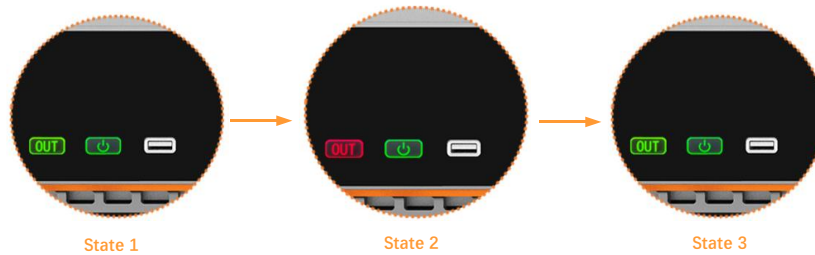

Figure 133 Output Connection State Diagram
Step 1: The power supply is in standby state, see Figure 133 State 1.
Step 2: Press the output button, the output relay engages, the output button indicator changes from green to red, see Figure 133
Step 3: Press the output button again, the output relay disconnects, and the output button indicator light changes from red to green, see Figure 133